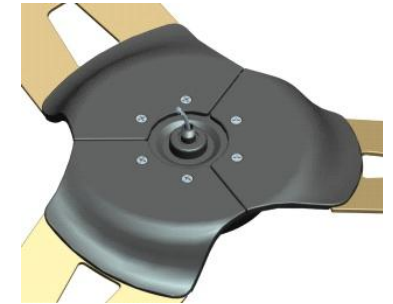

Fig 2.2
2.2 Install the other blade brackets with installed blades onto the corresponding mounting holes of the motor assembly as shown in Fig 2.2.